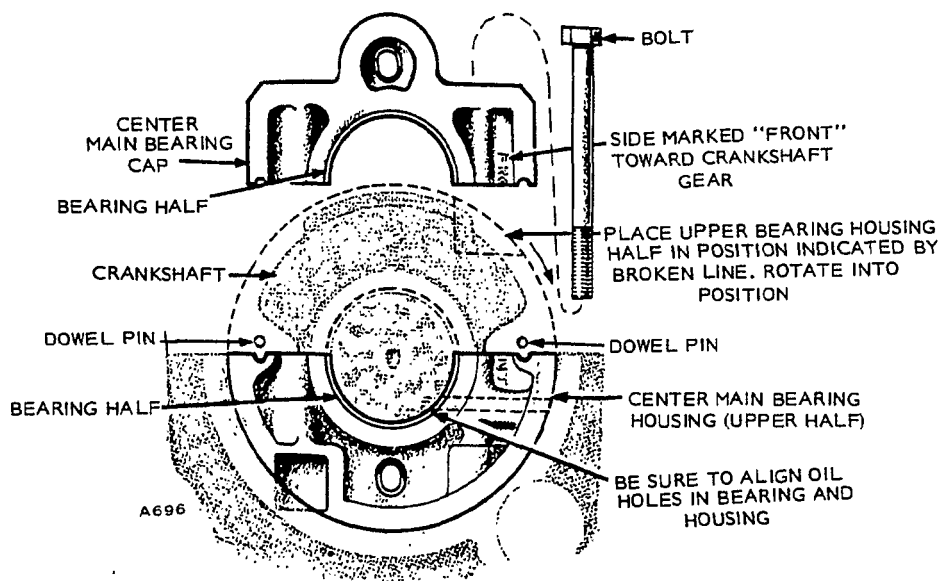

FIGURE 104. CENTER MAIN BEARING (FOUR CYLINDER ONLY)
5. **Four Cylinder Only.** Set upper half of center main housing on crankshaft and rotate it into place. Be sure side marked FRONT is toward crankshaft gear. Set two positioning dowels on upper bearing mount. Install center main bearing cap and torque bolts to 97-102 lb.-ft. (Figure 104).